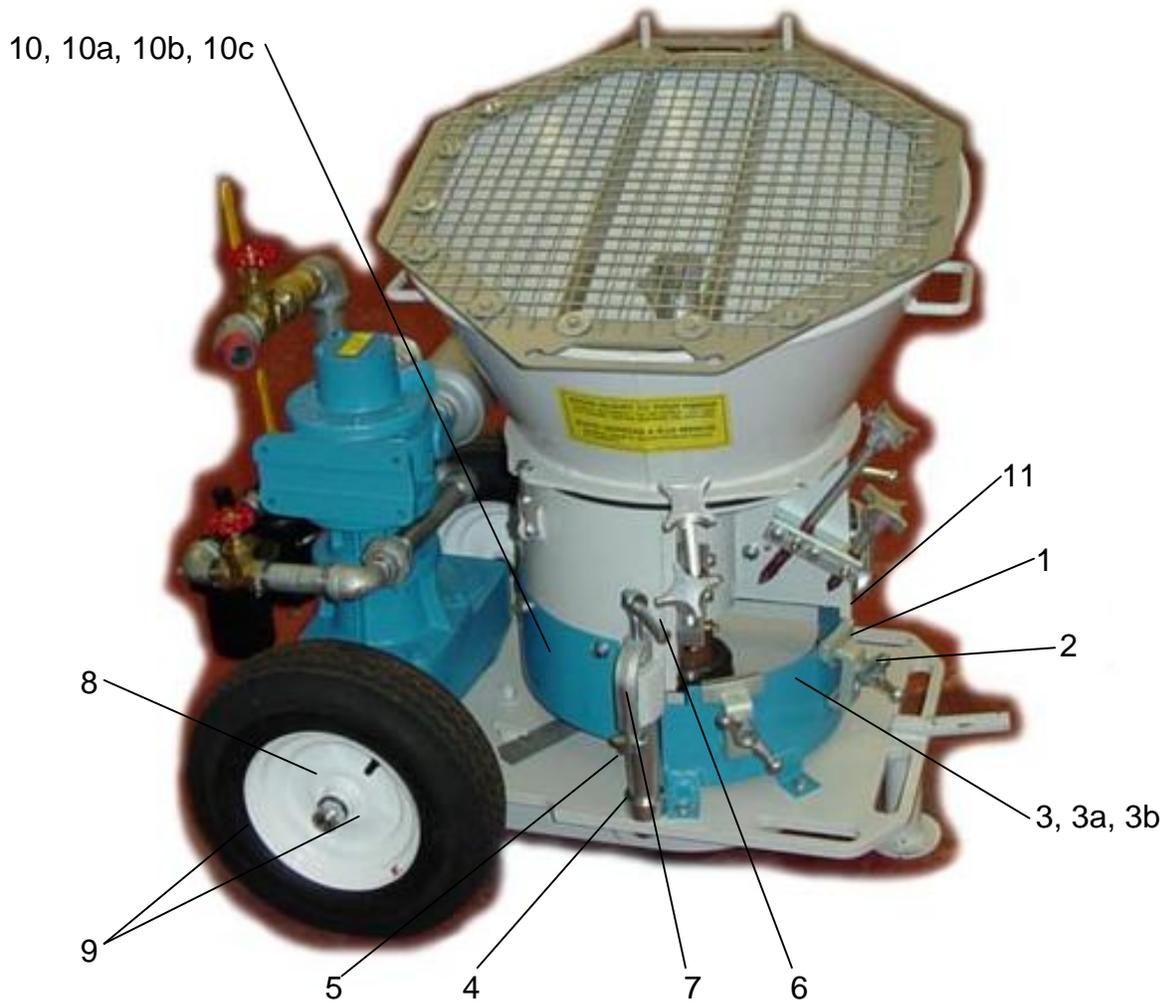

FIGURE 35
If you will no longer be using a feed system with a 1" wear plate, you should order a #705738 (2" Riser Kit including a 2" pad strap) to adjust the hopper height. See Figure 35, item 3 for a pad strap reference. If you will be using feed systems with a 1" or 2" wear plate, you should order a #705737 (2" Riser Kit including a spacer for a 1" pad strap) to adjust the hopper height.